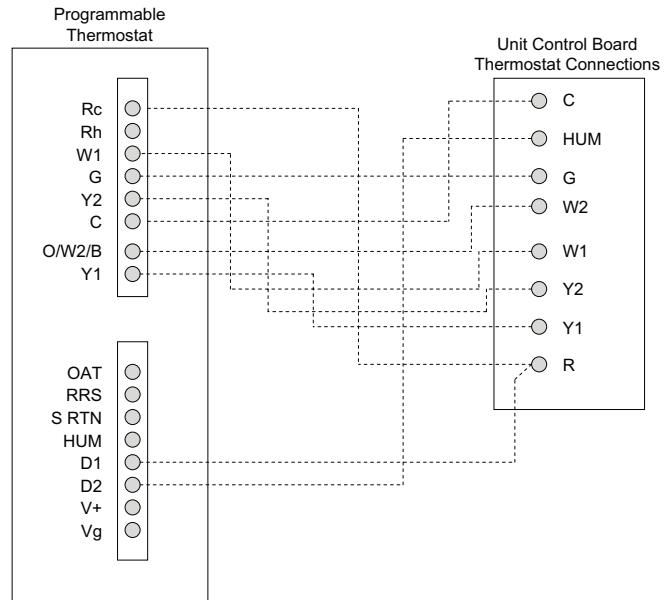

Fig. 58 – 48GE17-28 Unit with Humidi-MiZer Adaptive Dehumidification System with Edge® Pro Thermidistat Device**
3. The Thermidistat has dry contacts at terminals D1 and D2 for dehumidification operation (see Fig. 58). Connect D1 to the R terminal on the UCB. Connect D2 to the HUM terminal on the UCB. Refer to the installation instructions included with the Carrier Edge® Pro Thermidistat device for more information.